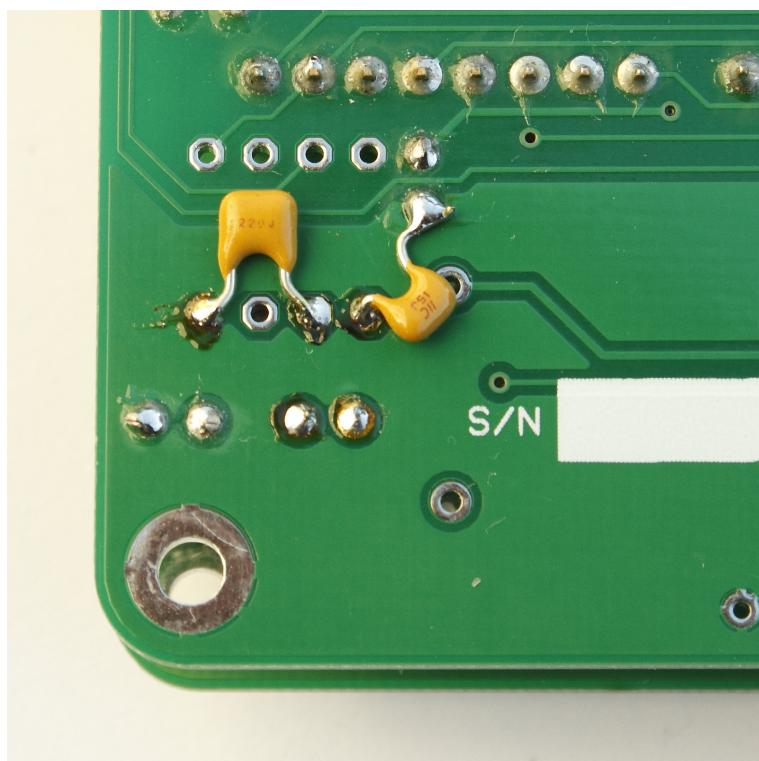

Figure 4.3: Real-time clock load capacitors (Calunium v 2.0).
22. C17, C18 (15 pF). Do not fit if using DS1338-33 RTC. For Calunium verion 2.0 the capacitors must be fitted on the reverse side of the board (see Figure 4.3 as no specific mounting holes exist (error caused by using an earlier, incorrect datasheet which did not show the load capacitors)).
26. Battery (CR2032). Check that the battery backup pin (3) on the RTC measures 3.0 V.